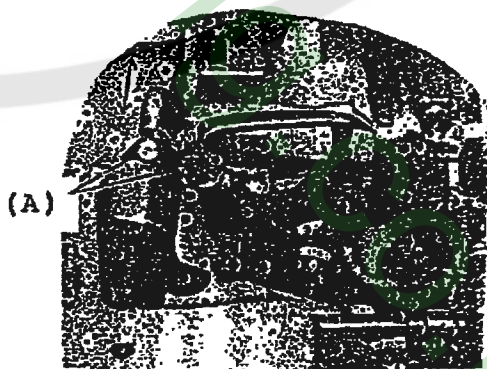

Fig.3
NOTE : If adjustment front or back is necessary, loosen two screw (A) Fig.3, and move spreader as required. Re-tighten two screws after adjustment.